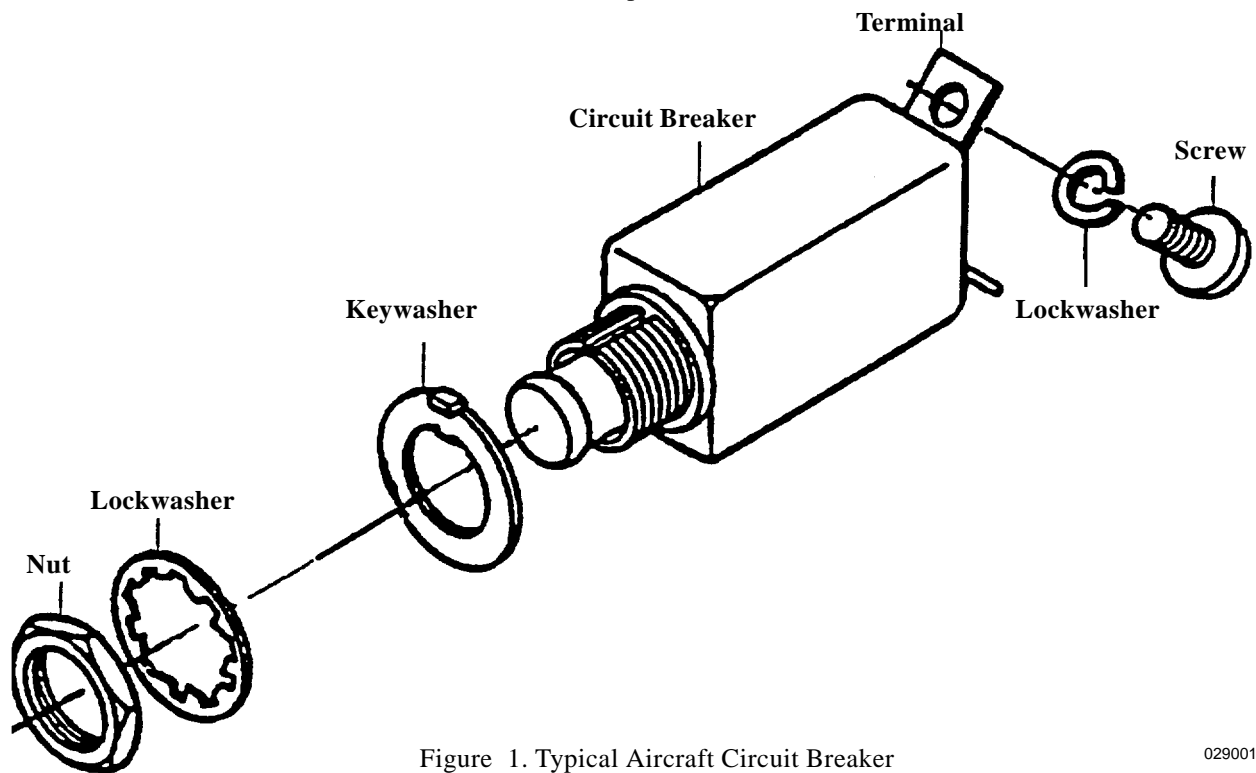

Figure 1. Typical Aircraft Circuit Breaker
13. **THERMAL.** Thermal circuit breakers generally operate dependent on the heating and subsequent deflection of a bimetallic thermostatic element due to the fault current (resistance heating). Some devices operate with the thermal expansion of a strand wire. Some devices may compensate for ambient temperatures. Thermal circuit breakers are generally not as affected by the start up surges and brief transients as many other devices. Figure 1 shows a typical circuit breaker.